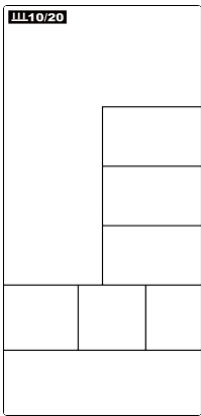
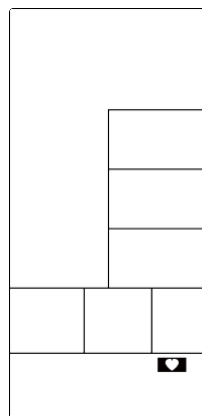

Figure 4
Figure 16
2. The window of INTERVAL10/20, INTERVAL10/20, INTERVAL CUSTOM, READY, WORK, REST, TIME, DISTANCE, CALORIES, WATTS, SPEED, RPM and  will flash by sequence in every 1s (Figure 4~Figure 16). If no input of key operation or RPM signal or pulse input for 60s, computer will go to Sleeping mode.